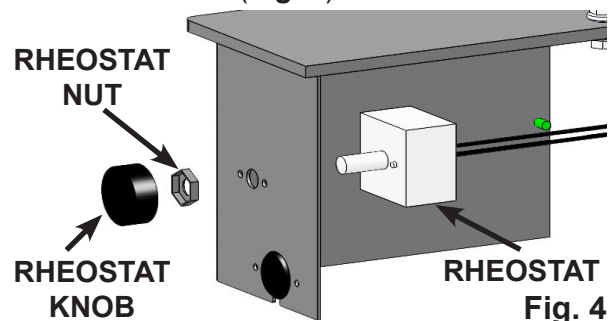

Fig. 4
3. Align the left and right slots in the ash shelf with the mounting brackets on the firebox, then slide into position and tighten the capscrews with a 5/32" allen key. (Fig. 4)
2. Locate the rheostat (supplied with appliance) and fasten it to the lower shroud with the rheostat nut, ensuring that the rheostat pins protrude through the alignment through holes. Once secure, install rheostat knob. (Fig. 4)